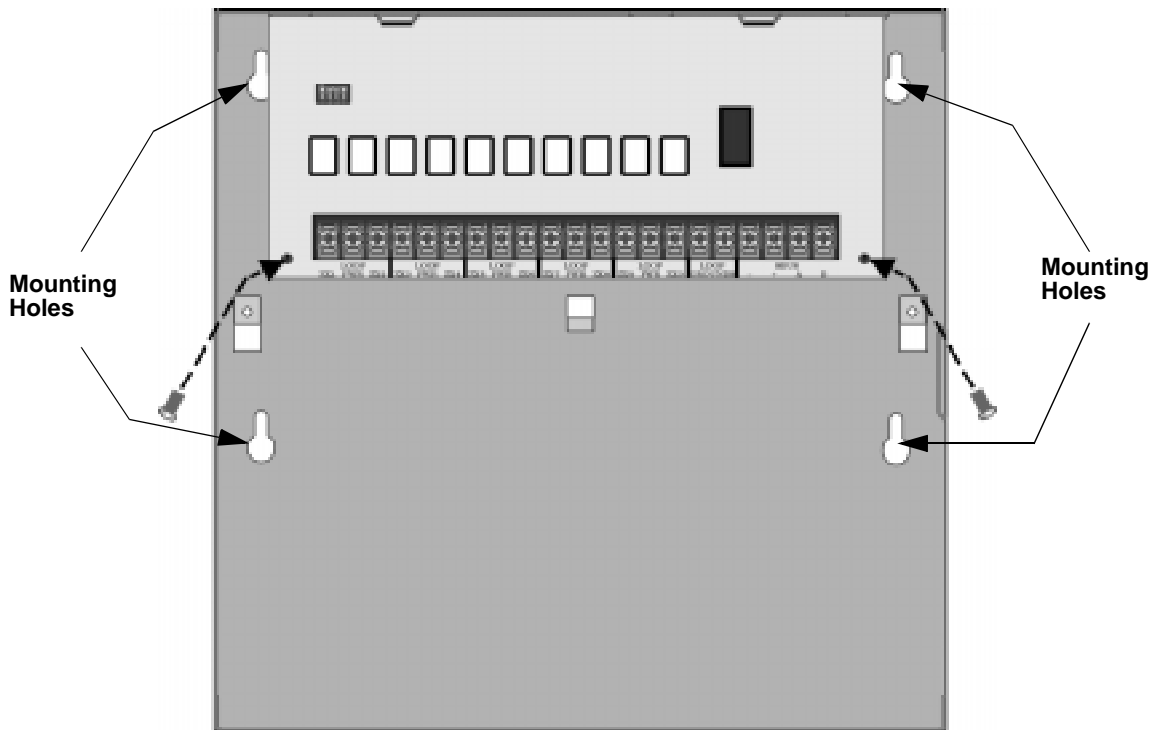

Figure 3-22 Model SK-5217 Remote Installation
1. Mount the remote cabinet using the cabinet mounting holes. See Figure 3-22.
3. Mount the SK-5217 onto the standoffs and bracket located in the cabinet. See Figure 3-22.